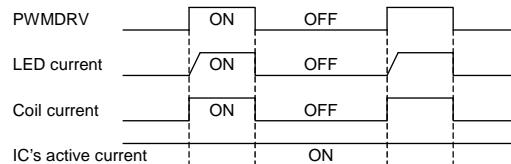

Fig.30 PWMDRV sequence
1) Current driver PWM control is controlled by providing PWM signal to PWMDRV, as it is shown Fig.30. The current set up with ISET is chosen as the H section of PWMDRV and the current is off as the L section. Therefore, the average LED current is increasing in proportion to duty cycle of PWMDRV signal. This method that it lets internal circuit and DC/DC to work, because it becomes to switch the driver, the current tolerance is a few when the PWM brightness is adjusted, so it makes it possible to brightness control until 5 μ s (MIN0.1% at 200Hz). And, don't use for the brightness control, because effect of ISET changeover is big under 1 μ s ON time and under 1 μ s OFF time. Typical PWM frequency is 100Hz~25kHz.